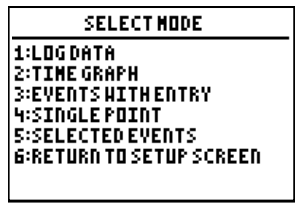

Figure 9
- Now press Z to select the **TIME GRAPH** option (Figure 9). The screen will now display the current settings.